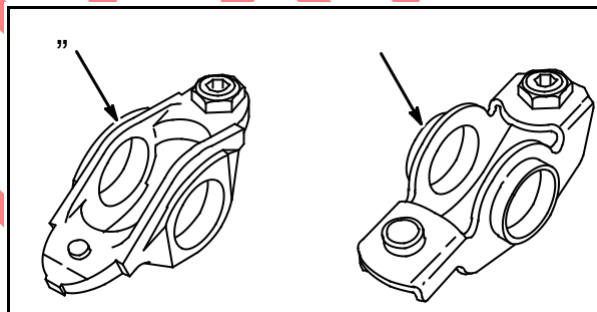

Fig. 3
Style 2: Engines manufactured before 960401xx but after 931031xx are equipped with cast aluminum rocker arms (3) with a rocker arm shaft, **Fig. 3**.
Style 1: Engines manufactured before date code 931101xx were equipped with stamped steel rocker arms (4) with a rocker arm shaft, **Fig. 3**.